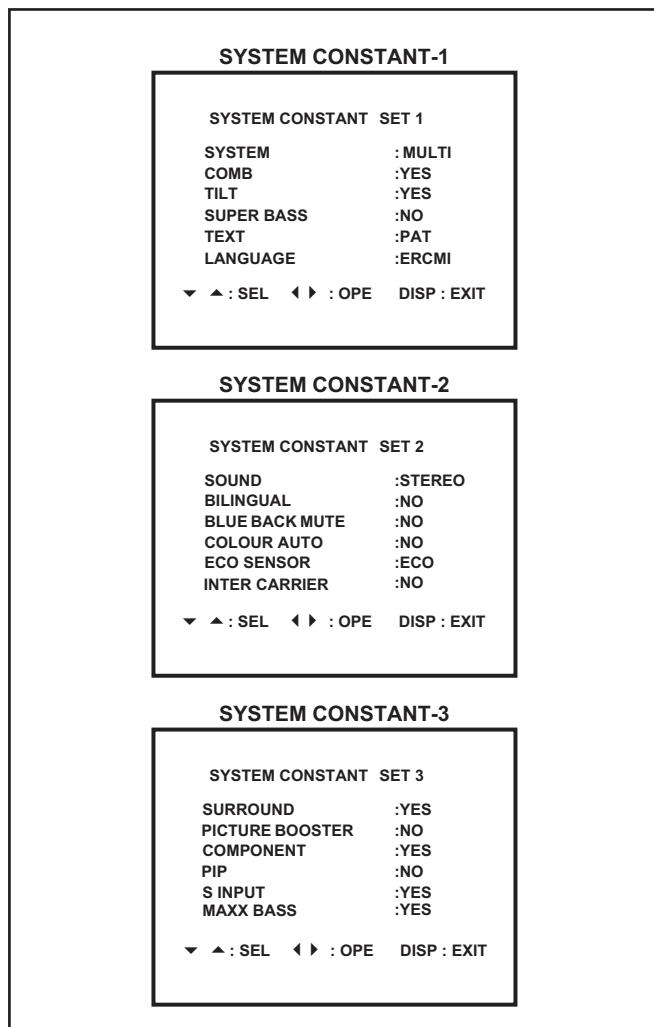

Fig.2
- (1) While pushing down the 1 claw [E] as shown in Fig. 2 and pull out the CONTROL BASE in the direction of arrow [F] as shown in Fig. 2, the control base can be removed.
- (3) While the SERVICE MODE is displayed, press the [DISPLAY] key and the [PICTURE MODE] key simultaneously, and the SYSTEM CONSTANT SET screen of Fig. 2 will be displayed.
- (4) Check the setting values of the SYSTEM CONSTANT SET. If the value is different, select the setting item with the [MENU ▲/▼] key, and set the correct value with the [MENU ◀/▶] key.
- (5) Press the [OK] key to memorize the setting value.
- (6) Press the [DISPLAY] key twice, and return to the normal screen.